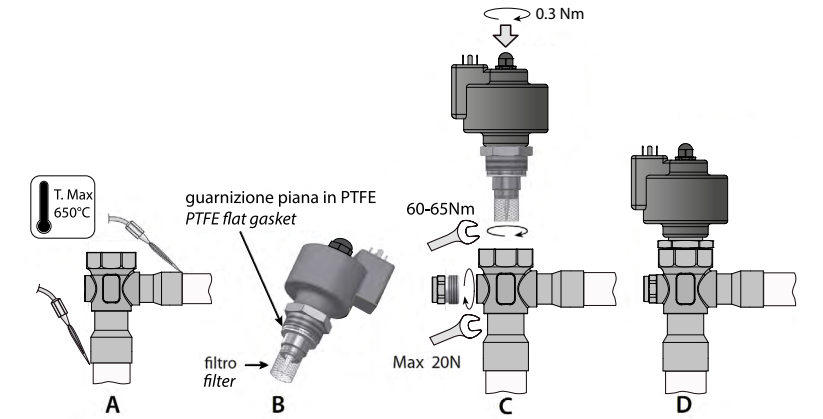

Fig. 2
Le valvole E³V-S devono essere saldate al circuito mediante brasatura dei raccordi in rame ai tubi di uscita condensatore (IN) e di ingresso evaporatore (OUT). Seguire la successione indicata in Fig. 2 procedendo in questo modo:
- Procedere alla saldatura orientando la fiamma verso l'estremità dei raccordi come da Fig. 2-A (per una migliore brasatura senza alterare la tenuta della zona di saldatura tra corpo e raccordi utilizzare lega con temperatura di fusione inferiore a 650 °C o con tenore di argento superiore del 25 %).
- Verificare che la guarnizione piana in PTFE sia presente e posizionata in sede (Fig. 2-B).
- Verificare che il filtro in rete metallica sia inserito sulla bocca di ottone (Fig.2-B). In caso contrario, posizionarlo come in figura e portarlo in battuta.
Serrare la cartuccia sul corpo valvola con una coppia di serraggio suggerita di 60-65 Nm (Fig. 2-C).
The E³V-S valves must be joined to the circuit by braze welding the copper fittings to the condenser outlet (IN) and evaporator inlet (OUT) pipes. Proceed as indicated in Fig. 2:
- Weld by aiming the flame at the ends of the fittings as shown in Fig. 2-A (for better braze welding without affecting the seal of the welded area between the body and the fittings, use alloys with a fusion temperature less than 650 °C or with a silver content above 25%);
- Make sure that the PTFE flat gasket is present in its seat (Fig. 2-B).
- Make sure that the metal mesh filter is inserted on the brass bushing (Fig.2-B). Otherwise, position it as shown in the figure and make sure it's properly in place.
- Tighten the steel cartridge in its threaded socket on the valve body using a 32 mm spanner. Tighten the cartridge on the valve body to a recommended tightening torque of 60-65 Nm (Fig. 2-C). For faster valve assembly, do not remove the motor from the cartridge.
- When the valve has cooled down, tighten the flow sight glass to the special threaded socket in the valve body (in line with the cross fitting) using a 17 mm Allen key, making sure the O-ring is fitted (OR - 114 –inside diameter 11.1 mm – thickness 1.78 mm – material: Neoprene) to ensure hermetic tightness. Tighten the sight glass to the end of the thread (Fig. 2 C), with maximum 20 Nm torque. **Warning!** To ensure better tightness of the assembly, use the Neoprene O-ring (other materials may affect the correct operation of the assembly) lubricated with a thin layer of compatible oil.